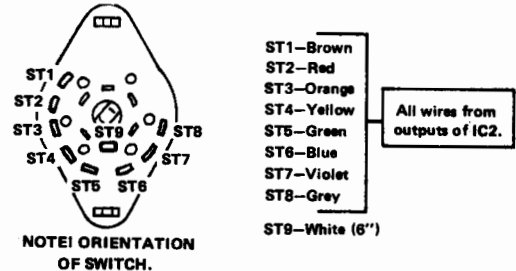

FIGURE 2 SWITCH WIRING
- () Referring to Fig. 2, tin all switch terminals (ST1-ST9).